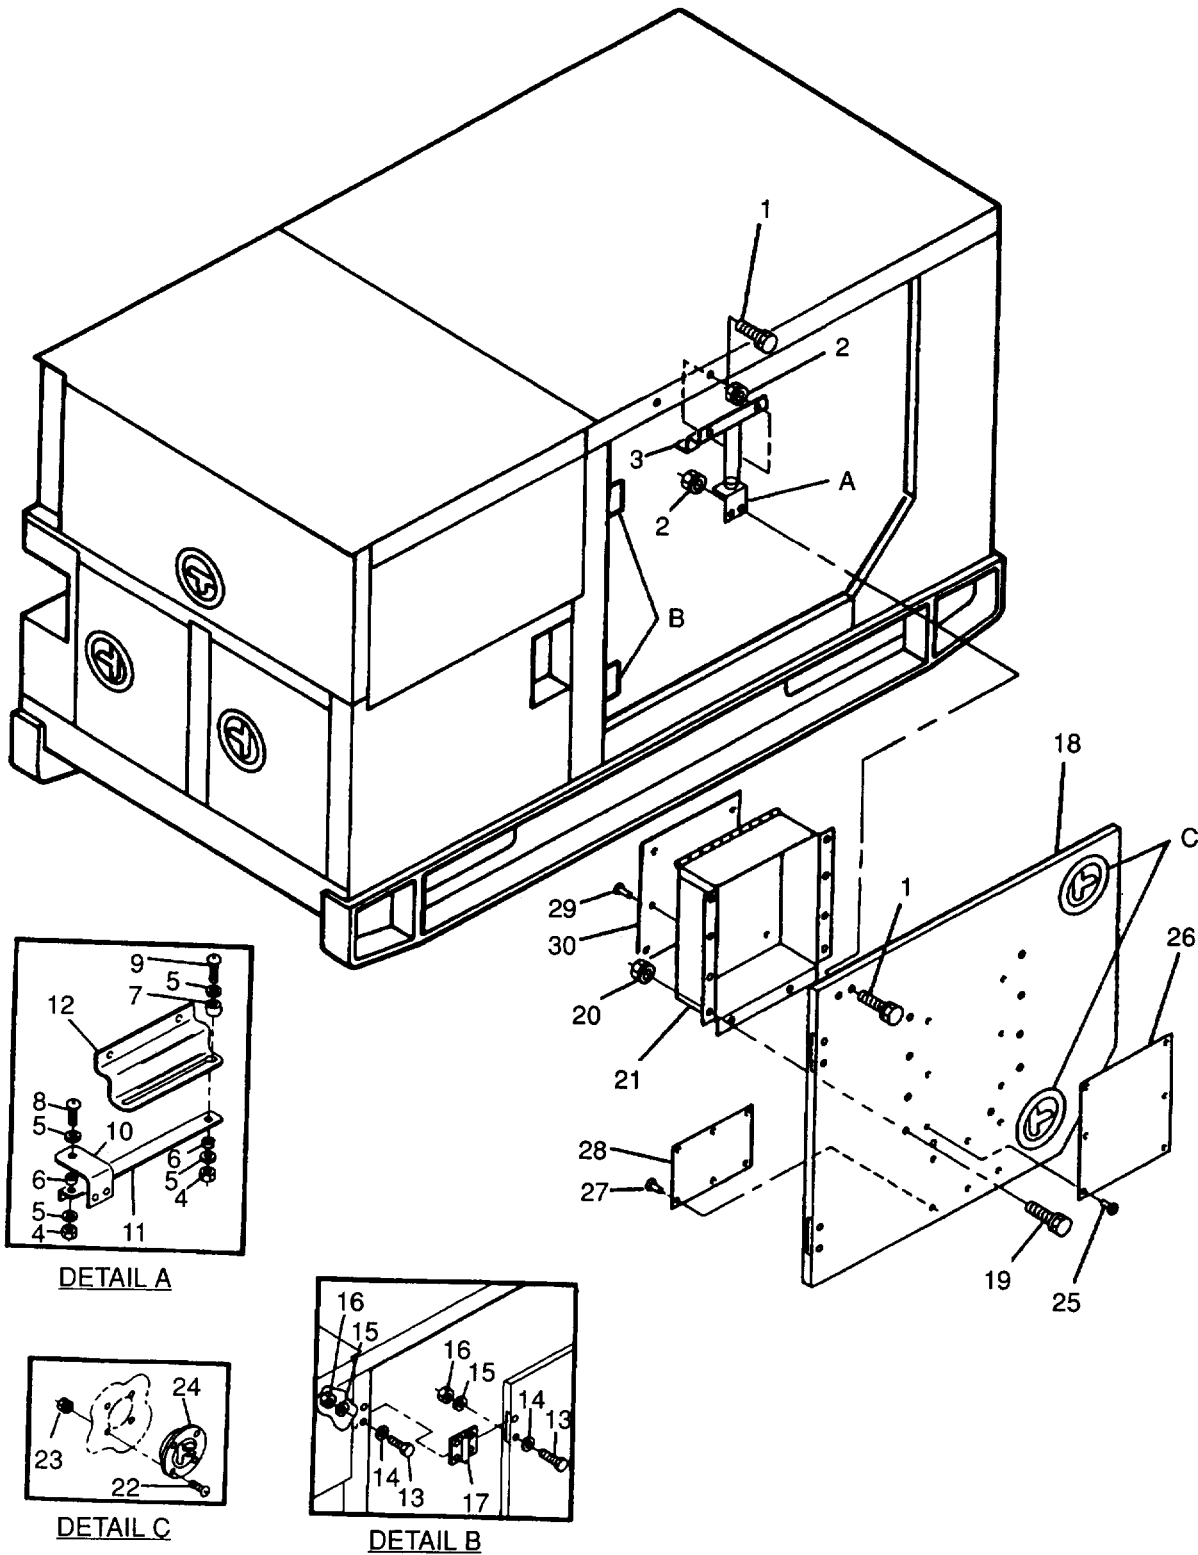

Figure 2-6. Generator Set Access Doors
- b. Remove bolts (1, Figure 2-6), nuts (2), and hold open mechanism (3) from right side engine access door (18) and generator set.
- c. Remove nuts (4), washers (5), spacers (6) and (7), screws (8) and (9), door holding bracket (10), and door link support (11) from door link flange (12).
- d. Remove bolts (13), washers (14), lockwashers (15), nuts (16), hinges (17), and right side engine access door (18) from generator set.
- e. Remove bolts (19), nuts (20), and document box (21) from right side engine access door (18).
- f. Remove screws (22), nuts (23), and latches (24) from right engine access door (18).
- g. Drill rivets (25) and (27), and remove lifting and tiedown plate (26) and battery connection plate (28) from right side engine access door (18).
- h. Drill out rivets (29), and remove schematic diagram (30) from document box (21).
- a. Install schematic diagram (30, Figure 2-6) on document box (21) with rivets (29).
- b. Install lifting and tiedown plate (26) and battery connection plate (28) on right side engine access door (18) with rivets (25) and (27).
- c. Install latches (24) on right side engine access door (18) with screws (22) and nuts (23).
- d. Install document box (21) on right side engine access door (18) with bolts (19) and nuts (20).
- e. Install hinges (17) and right side engine access door (18) on generator set with bolts (13), washers (14), lock-washers (15), and nuts (16).
- f. Install door holding bracket (10) and door link support (11) on door link flange (12) with screws (8) and (9), spacers (6) and (7), washers (5), and nuts (4).
- g. Install door hold open mechanism (3) on generator set and right side engine access door (18) with bolts (1) and nuts (2).